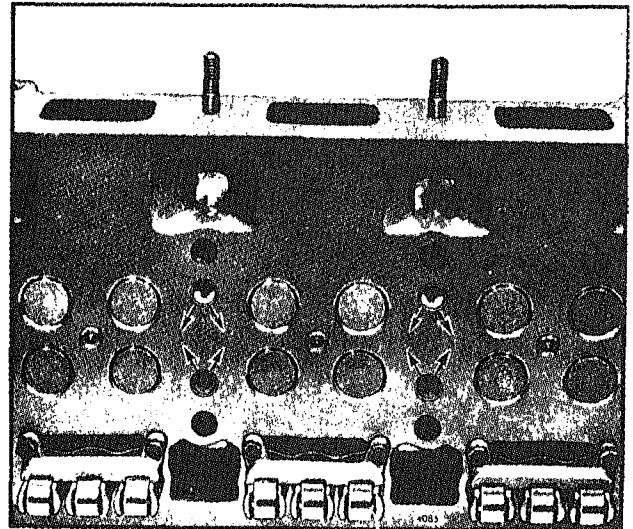

Fig. 5 - Correct Installation of Water Nozzles in Four-Valve Cylinder Head
- c. Press the nozzles in place with the outlet holes positioned as shown in Fig. 5. The angle between the outlet holes in the nozzle is 90°. Press the nozzles from flush to 1/32" below the bottom surface of the cylinder head.